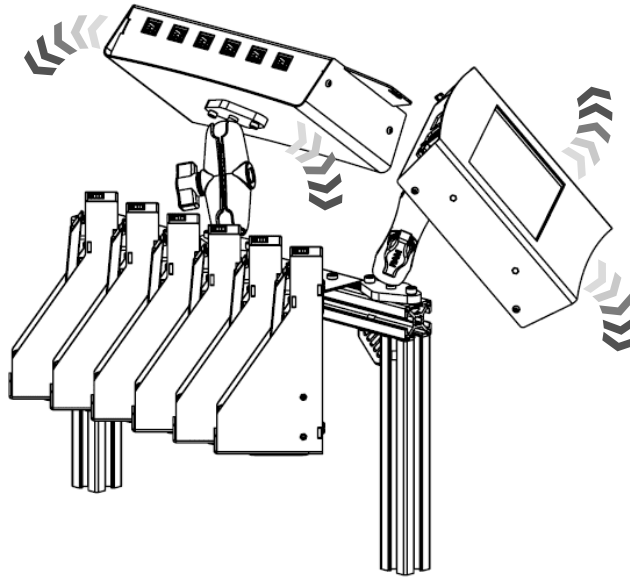

Figure 10
- Adjust the positioning of the controller and hub to the desired position for viewing and safe operation as shown in Figure 10.